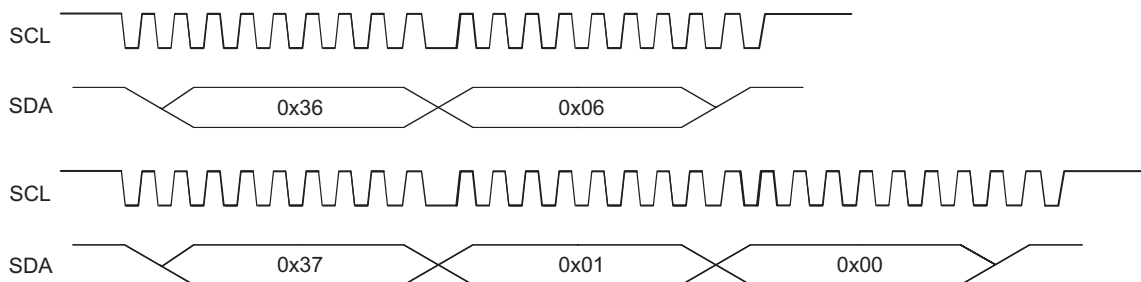

Figure 1-1. I²C Read Transaction Sequence
An example of a host issuing a read command to DLPC150 is shown in Figure 1-1. In this example, the host writes command 0x06 by transmitting a start condition (S), followed by the DLPC150 address with the read/write bit cleared (0x36), then the parameter 0x06, then a stop condition (P). This is followed by a host reading parameters 0x01 and 0x00 by transmitting a start condition (S), followed by the DLPC150 address with read/write bit set (0x37), then a read of parameters 0x01 and 0x00, then a stop condition (P).